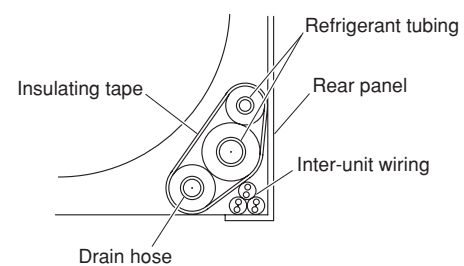

Fig. 3-128
- (1) Pass the tubing and drain hose into the rear of the indoor unit. Provide sufficient length for the connections to be made. Next, bend the tubing with a pipe bender, and connect them.
- (2) After performing a leak test, wrap the refrigerant tubing and drain hose together with insulating tape, as shown in the figure at right. (Fig. 3-128) Then fit the tubing into the tubing storage space in the rear of the indoor unit and clamp in place.
- (3) Adjust the indoor unit so that it is securely installed onto the rear panel.